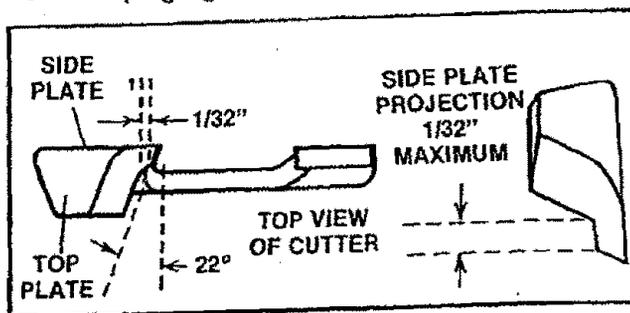

Figure 20
7. Maintain a 1/32" side plate projection. Figure 20.